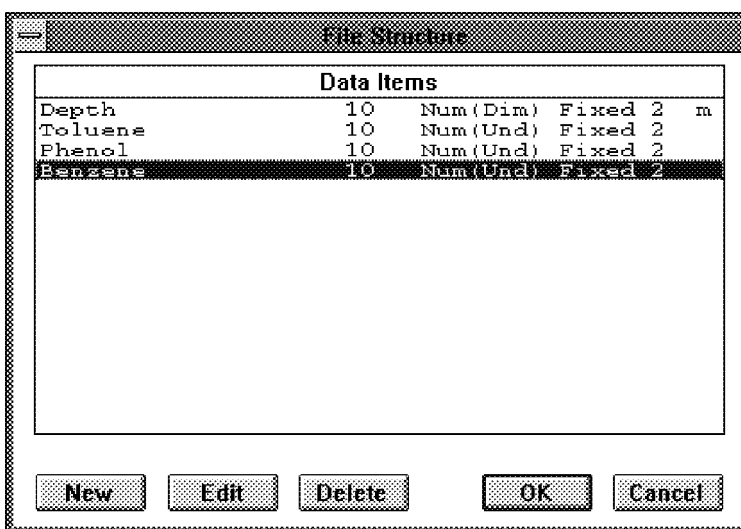

Figure 19-16
- 6.Repeat the same for Benzene. The list should now contain 4 parameters as shown in Figure 19-16.